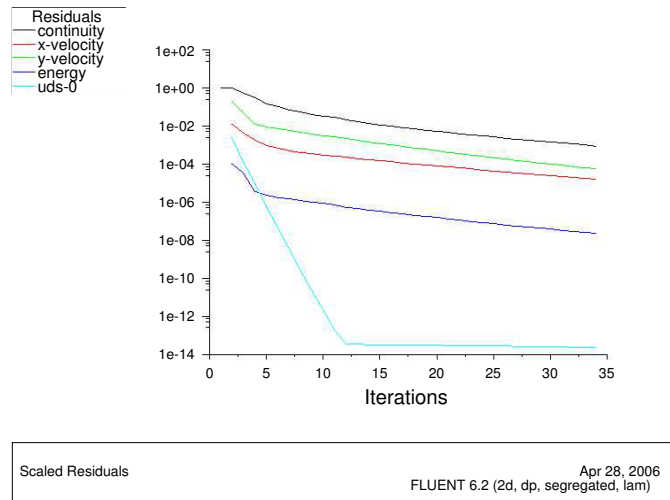

Figure 11.3: Scaled Residuals
*The solution converges in about 33 iterations with default convergence criteria. The number of iterations required for convergence varies according to the platform used. Also, the residual values are different for different computers, therefore, the residual plot that you will get may not be exactly the same as Figure 11.3.*